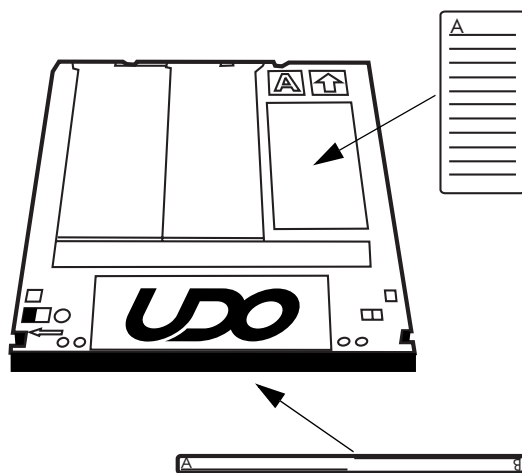

Figure 3: Labeling a UDO disk
Make it a practice to label your UDO disk cartridges. Adhesive labels come with each UDO disk for this purpose (see Figure 3).
- Only apply labels to the areas designated in Figure 3. Never place labels over the disk cartridge shutter or open the shutter for any reason.